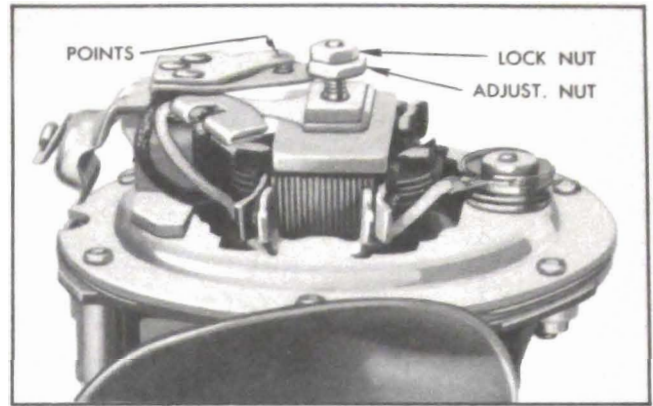

Figure 10-95—Horn Contact Point Adjustment
The left hand horn is high pitched (380-400 cycles) and the right hand horn is low pitched (302-323 cycles), so that together they produce a pleasing blended tone. The horns have been made exceptionally compact by a spiral air column cast into the base and collar. See figure 10-95.
4. Adjust to specified current draw, if necessary, by loosening lock nut and turning contact point adjusting nut clockwise to decrease or counterclockwise to increase current draw. See figure 10-95. This adjustment is very sensitive, and adjusting nut should not be moved more than one-tenth turn at a time, then locked with nut each time before trying the horn.